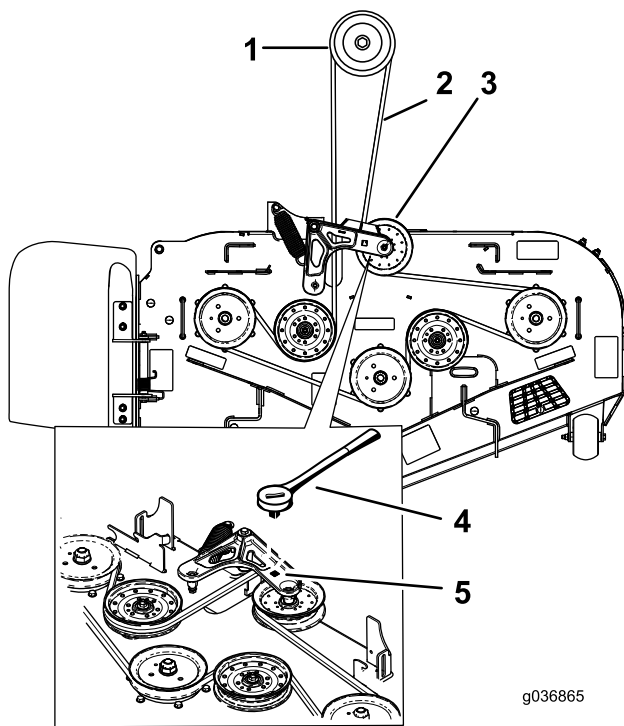

Figure 95
5. Remove the spring tension from the spring-loaded idler pulley. Refer to Figure 94 or Figure 95.
Note: For 2500 Series mower decks, use a ratchet in the square hole in the idler arm to remove tension on the idler spring (Figure 95).
7. Install the new belt around the mower pulleys and the clutch pulley under the engine (Figure 93 or Figure 95).
8. Install the idler spring (Figure 93 or Figure 95).